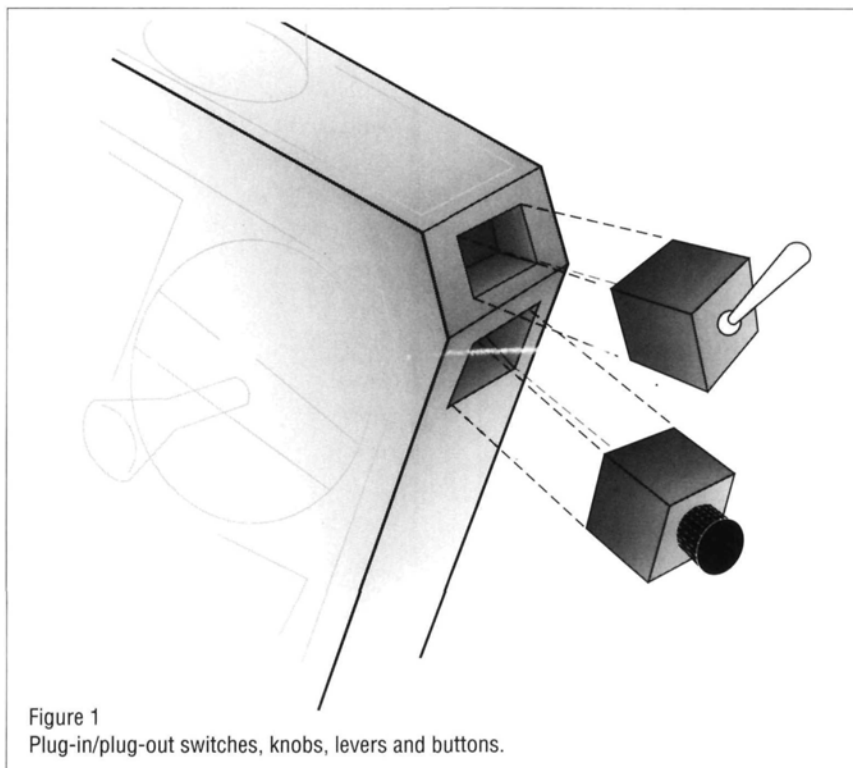

Figure 1
• **Replaceable/interchangeable switch blocks** (see Figure 1). You could remove (pull out) the student-trainer switch and plug in a slider pot to put flap activation where you want it. The radio's software would be told what function (channel) to assign the switch to and what direction activates the function. The blocks could be buttons, switches, sliders, knobs, etc.